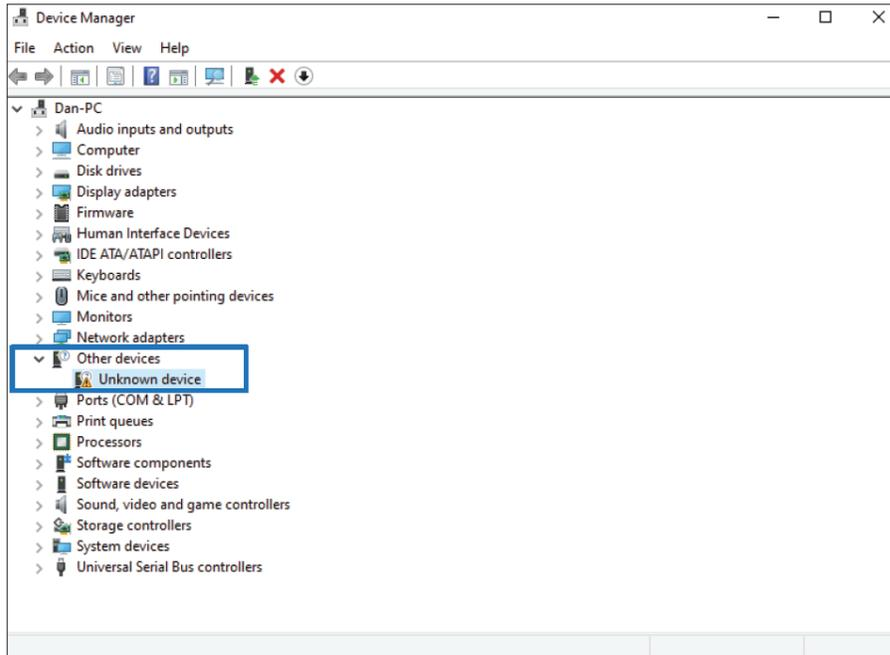

Figure 15
- 3.2. The “Unknown Device” should disappear and reappear on the list, hence confirming that it is indeed the PL-485-BT adaptor. (Figure 15 and 16)